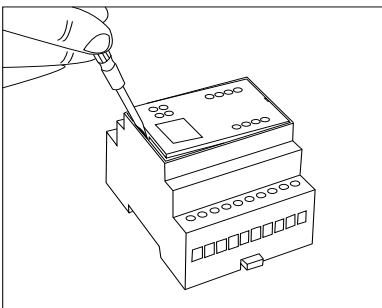

Figure 7.1.1
- Remove the cover with screwdriver (see the *figure 7.1.1*).